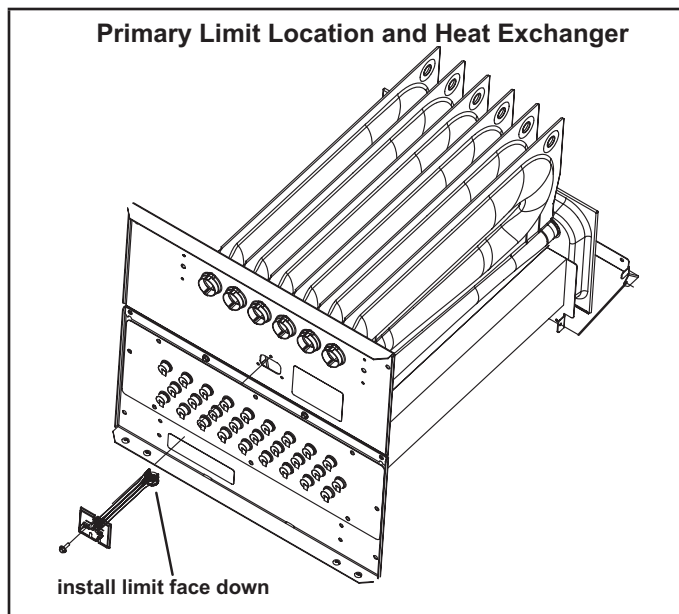

FIGURE 15
5. Duralock Plus Heat Exchanger (FIGURE 15)
FIGURE 15 shows the primary limit (S10) used on SLP99DFV units located in the heating vestibule panel. When excess heat is sensed in the heat exchanger, the limit will open. Once the limit opens, the furnace control energizes the supply air blower and de-energizes the gas valve. The limit automatically resets when unit temperature returns to normal. The switch is factory set and cannot be adjusted. In the event of restricted air flow, the integrated control will reduce firing rate and indoor blower airflow in 10% increments until a sustainable air flow is reached. If the furnace reaches 35% firing rate, and adequate air flow is not available, the furnace will shutdown and enter one hour watchguard. For limit replacement remove wires from limit terminals and rotate limit switch 90 degrees. Slowly remove from the vestibule panel.